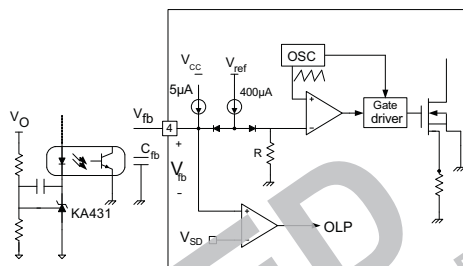

Figure 16. PWM and Feedback Circuit
2. Feedback Control: The FSQ100 is a voltage mode controlled device, as shown in Figure 16. Usually, an opto-coupler and shunt regulator, like KA431 are used to implement the feedback network. The feedback voltage is compared with an internally generated sawtooth waveform. This directly controls the duty cycle.